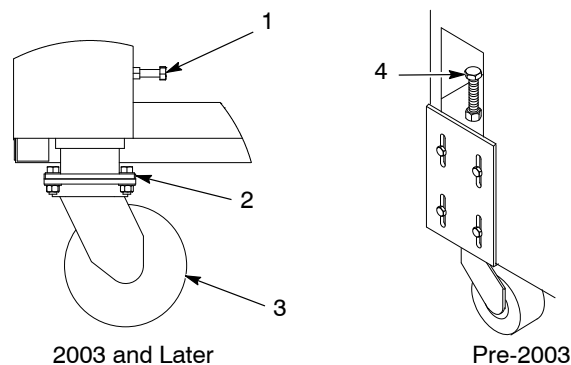

Figure 3-4 Adjustable Casters
- a. See Figure 3-4. Loosen the set screw (1) on the inside of each color module leg.
- b. Turn the caster mount (2). One complete turn of the caster mount will raise or lower the caster by approximately 3.2 mm (0.125 in.).
- c. Tighten the set screw (1).
See Figure 3-4. Use the four leveling screws (4) on the sides of the color module to adjust its height and level it.